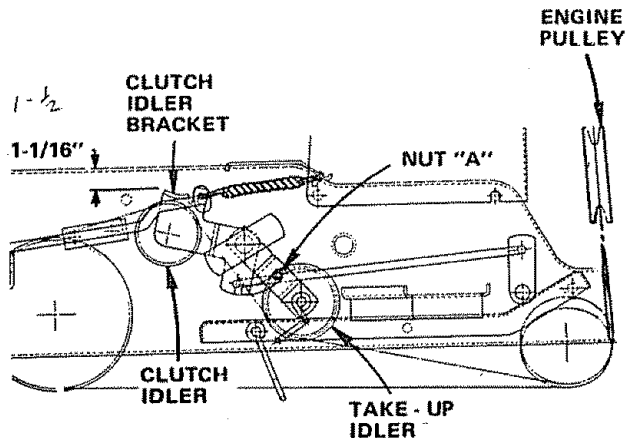

FIGURE 52
- e. Check position of Clutch Idler Bracket (Fig. 52).
- f. Repeat steps b thru e until a 1 - 1/16" dimension is obtained between Idler Tab and Frame as shown in Fig 52.
- h. Reinstall Shift Cover Plate and (4) Screws removed in step a.